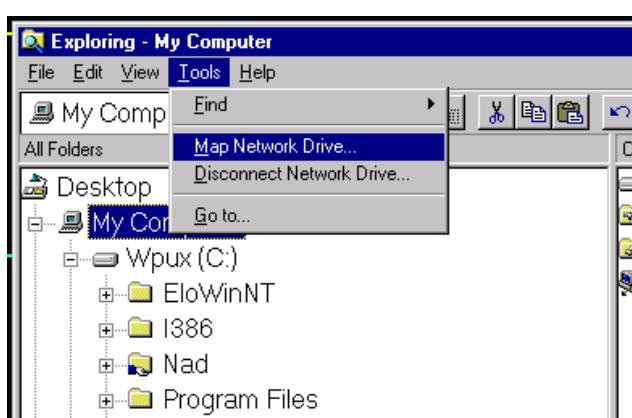

FIGURE 12. Exploring: Map Network
- 3.24 From the menu list at the top of the Explorer window select 'Tools', 'Map Network Drive...' then press Enter. Refer to FIGURE 12.